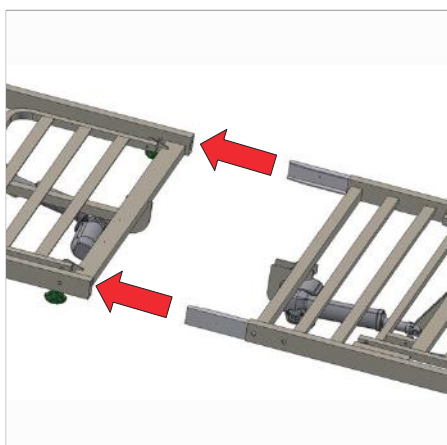

Figure 5: Platform connection
15. Carefully align the two sections of the bed and slide together (*Figure 5*)